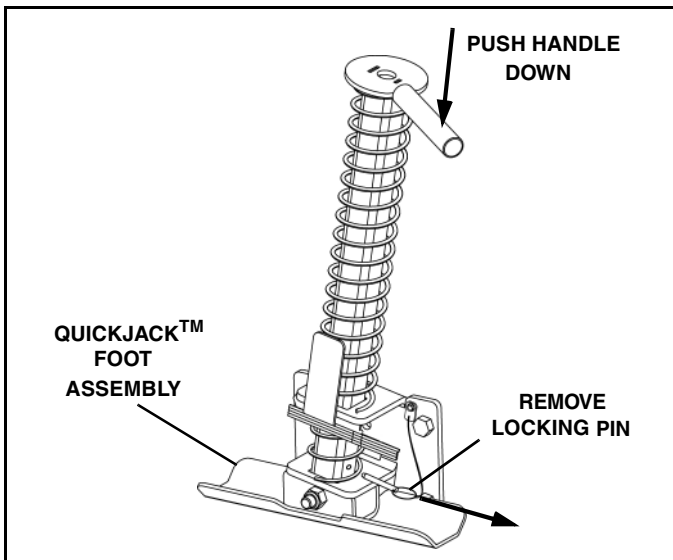

Figure 1-53
3. Remove the QuickJack™ locking pin and push the jackstand handle down to fully lower the foot to the ground. (See Figure 1-53).